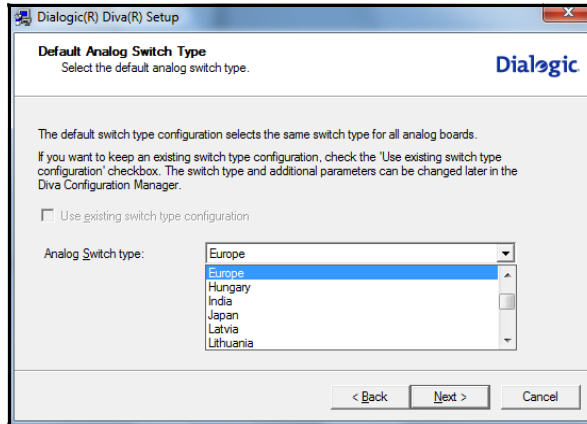

Figure 30: Country and Switch Type
17. Select the appropriate country from the list (Figure 30 on the next page) and click **Next**.